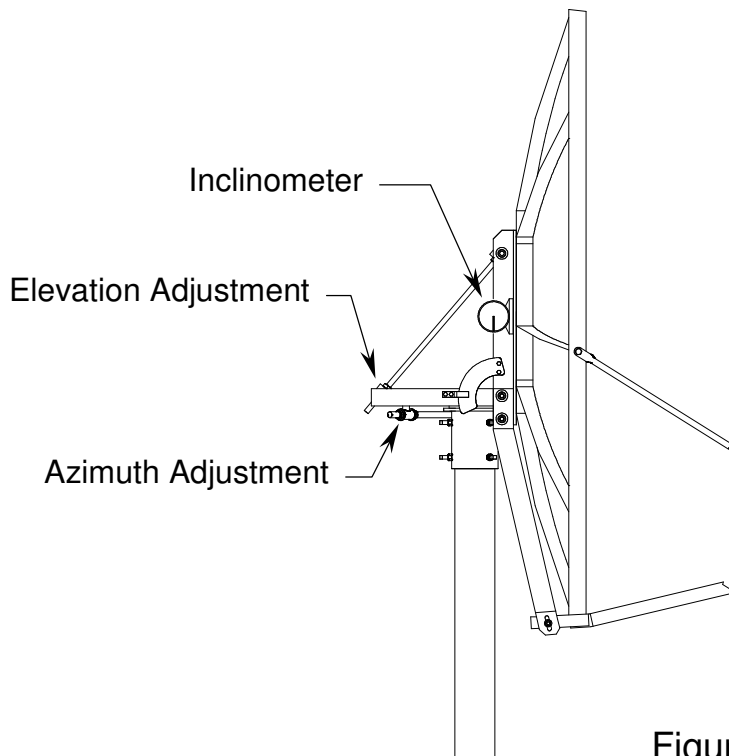

Figure 2
The 1.2 meter reflector contains a 22.6° elevation offset look angle. Therefore, when the reflector aperture is perpendicular to the ground, the antenna is actually looking 22.6° in elevation. Refer to Figure 2.
- Step 1:      Place an inclinometer on the reflector support angle as shown in Figure 2.